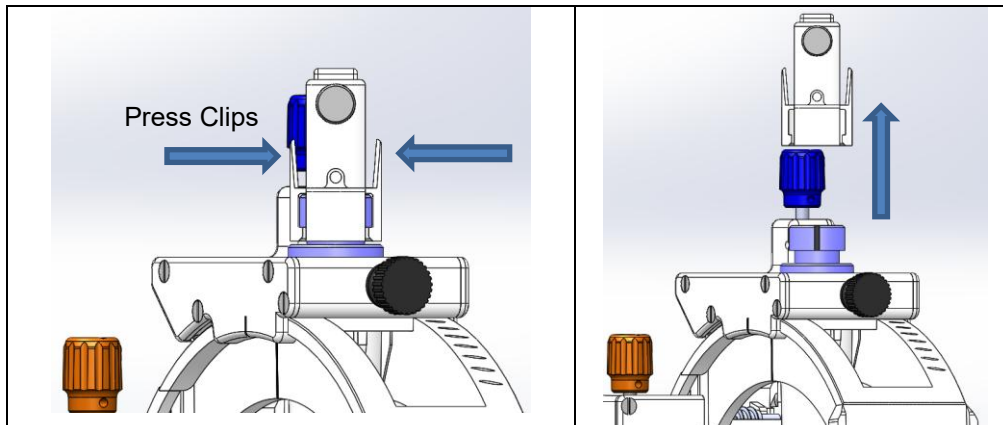

Figure 228: Removing the Dock and Lock
3. Remove the Dock and Device Lock Assembly by squeezing the clips to separate it from the SMARTFrame Array. **See Figure 228.**